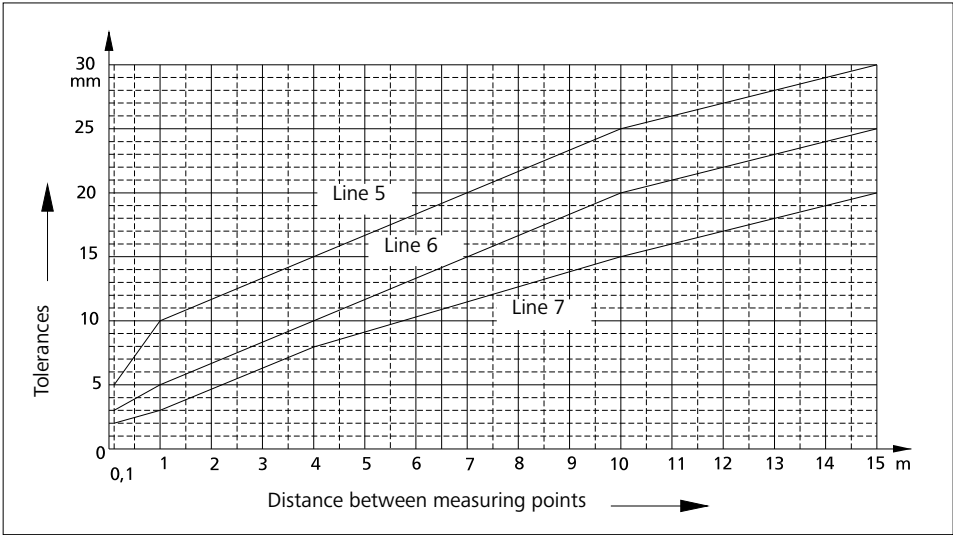

Fig. 28.2
* Intermediate values can be found in Fig. 28.2. Round up values found to full mm.